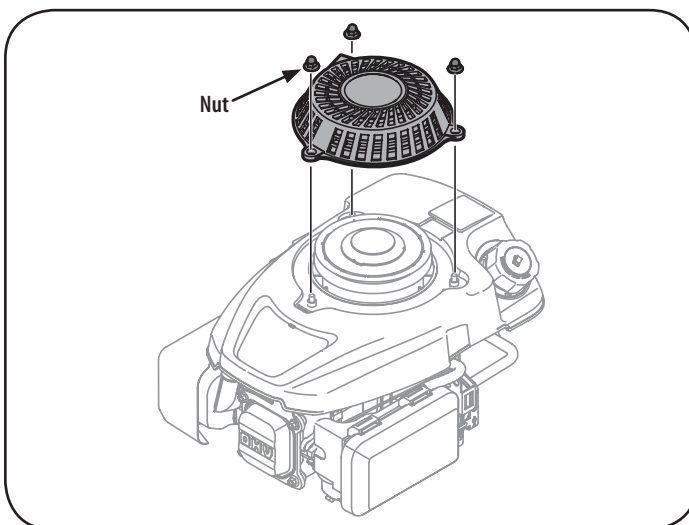

Figure 19
1. Remove the nuts securing the recoil housing as shown in Figure 19 and remove.